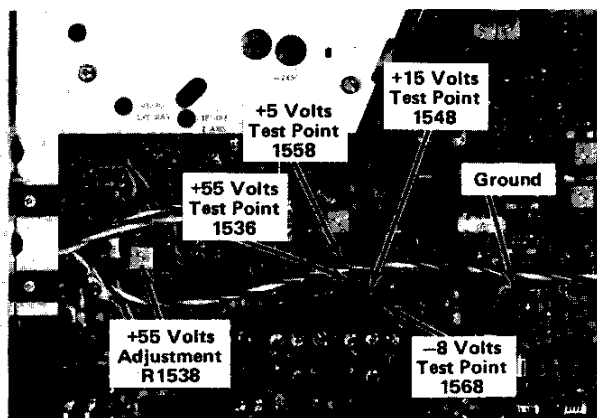

Fig. 5-2. Low-voltage power supply test points and adjustment locations. See Fig. 7-21A and 7-21B for alternate test point locations.
a. Connect the Precision DC Voltmeter between test point (TP) 1536 and GND (negative meter lead to ground) on the Interface board. See Fig. 5-2.
c. ADJUST—(Adjust ONLY if outside of 0.5% tolerance) +55 Volt Supply adjustment R1538 (see Fig. 5-2) for a meter reading of +55 volts within 0.1% (0.05 mV).
d. Using the precision DC Voltmeter, measure the DC level of the power supplies given in Table 5-5. Observe proper meter polarity. See Fig. 5-2 for test point locations.